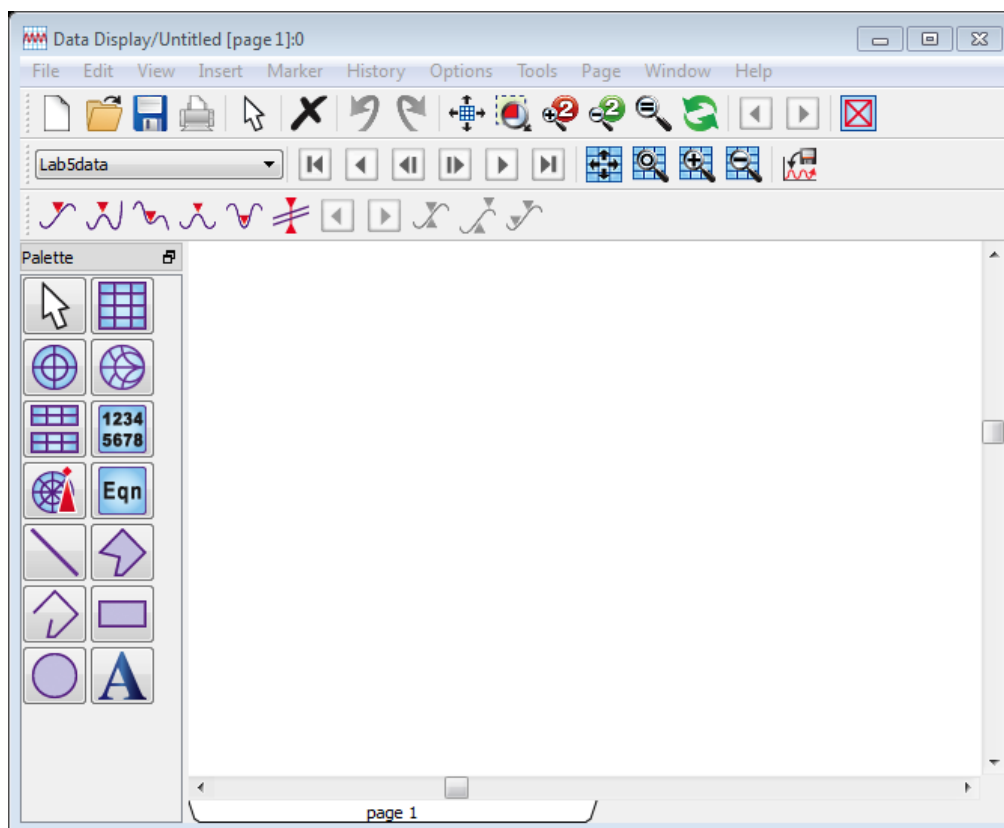

Figure 21: Data Display Window
2. Click “Window” and select “New Data Display.” A new data display will pop up as shown in Figure 21.